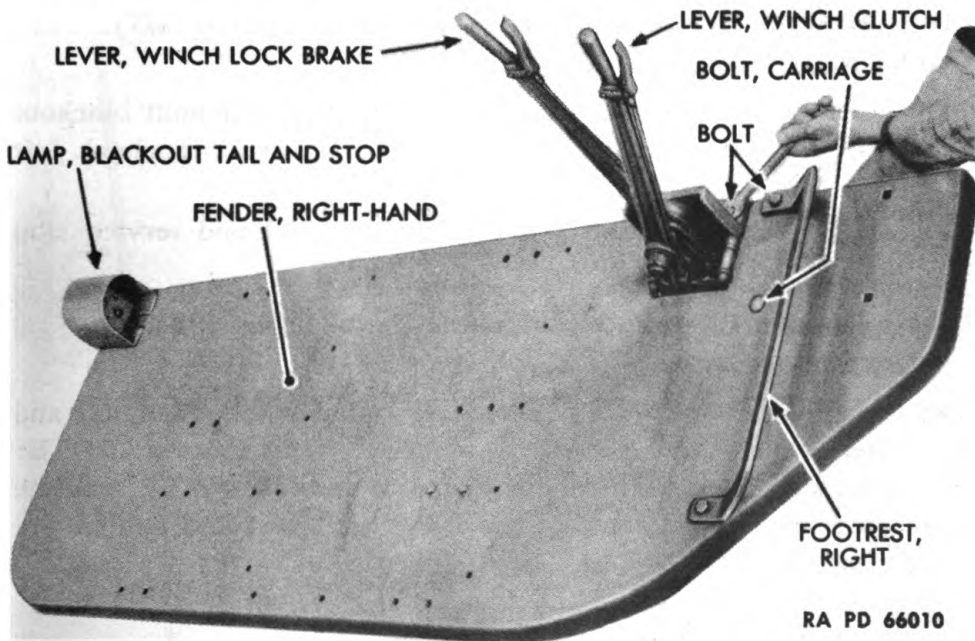

Figure 195 — Winch Shifter and Brake Lever Removal from Right Fender
(17) **REMOVE WINCH SHIFTER LEVER AND WINCH BRAKE LEVER FROM RIGHT FENDER** (fig. 195).
(18) **REMOVE RIGHT FOOTREST** (fig. 195).
(19) **REMOVE BLACKOUT TAIL AND STOP LAMPS** (fig. 195).
(20) **REMOVE LEFT FOOTREST FROM FENDER** (fig. 195).
(1) **ATTACH LEFT FOOTREST TO LEFT FENDER (fig. 195).**
(2) **ATTACH BLACKOUT TAIL AND STOP LAMPS TO FENDERS (fig. 195).**
(4) INSTALL WINCH SHIFTER LEVER AND WINCH BRAKE LEVER ON RIGHT FENDER (fig. 195).